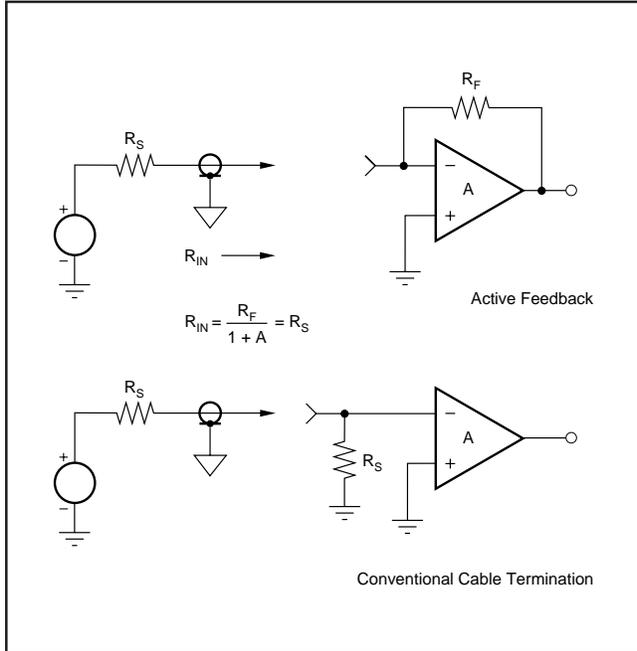

FIGURE 5. Configurations for Active Feedback and Conventional Cable Termination.
Figure 5 shows an amplifier using active feedback. This diagram appears very similar to a traditional inverting amplifier. However, the analysis is somewhat different because the gain "A" in this case is not a very large open-loop op amp gain; rather it is the relatively low and controlled gain of the LNP itself. Thus, the impedance at the inverting amplifier terminal will be reduced by a finite amount, as given in the familiar relationship of Equation (3):